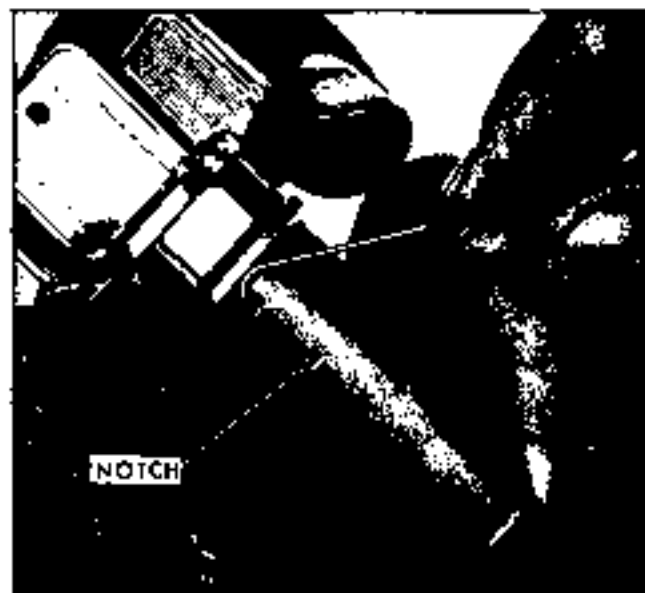

Fig. 0-10 Depressing Lock Cylinder Retainer Pin
3. Using suitable pick, depress brass pin in slot, on side of cylinder as shown in Fig. 0-10.